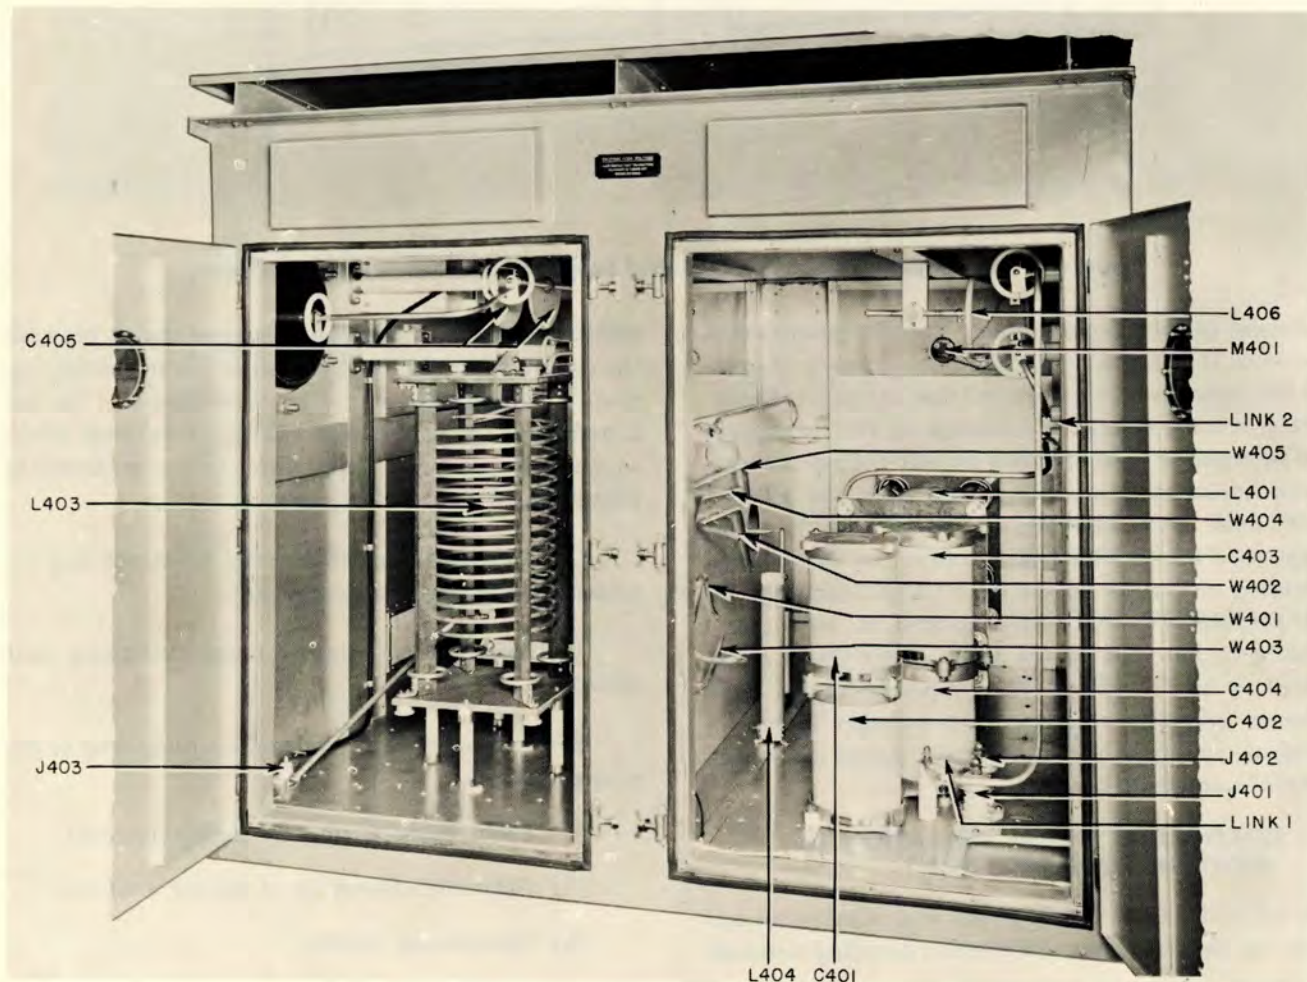

Figure 3-22. Antenna Coupling Unit (Not Supplied), Rear Access Doors Open
d. ARRANGEMENT OF ANTENNA COUPLING UNIT AS THE PROPER NETWORK. — The Antenna Coupling Unit* is shipped from the factory "T"-connected in variation 2. If the unit is to be arranged in any other configuration, in accordance with the procedure of paragraph c, connections must be made accordingly within the unit. Copper-tubing connectors for other arrangements are provided in clips on the vertical shield at the center of the unit, as shown in figure 3-22.
(1) Make certain that the antenna lead is securely connected to the bowl insulator on the right-hand side of the Antenna Coupling Unit, and that the coupling unit ground strap is connected to the antenna ground or counterpoise system.
(2) Open the right rear door (as viewed from rear) and place the bridge equipment near the opening. Make certain that LINK 2 (see figure 3-22) is in the position which connects the antenna network (and not the dummy load) to the input line. Loosen LINK 1 (see figure 3-22) and tighten it in a neutral position so that neither of the two input lines is connected. In some convenient manner, make it possible for the operator to wear the bridge detector (receiver) earphones when in a position to adjust the tuning controls on the front of the coupling unit.
(3) Connect the grounded "UNKNOWN" terminal of the bridge to the ground strap of the coupling unit by means of a short lead. Connect the ungrounded "UNKNOWN" terminal of the bridge to the neutrally positioned LINK 1.
(4) Set the r-f bridge so that if the unknown impedance were 52 ohms resistance and zero ohms reactance ($52 + j0$), a balance would be obtained. Tune the signal generator output to the desired operating frequency.
(5) While listening to the bridge detector output, adjust the A-ANTENNA TUNING control and the B-ANTENNA TUNING control individually for the best signal null. This, in all probability, will not result in a perfect null as the controls are interdependent. However, it will provide a good starting point from which to proceed. For each of several small increments (about 20 divisions) of dial setting, in both directions, of control B, tune control A for the best null. Keep in mind the depth of the null at each of the increments. Proceed with the increments of A and re-tuning of B in the *direction of increasing null* until the bridge signal is at an irreducible minimum. The antenna coupling circuit input is then correct. Lock controls A and B.
(6) Remove the bridge connections and restore LINK 1 to either of the two input lines.
(1) With the transmitter inoperative, open the right rear door (looking from rear) of the coupling unit and adjust LINK 2 (see figure 3-22) to connect the dummy load. Reclose the door.
(2) Turn the transmitter on, and record the readings on the TRANSMISSION LINE meter (M111) in the transmitter, and the LINE meter (M401) in the coupling unit. The readings observed on the meters